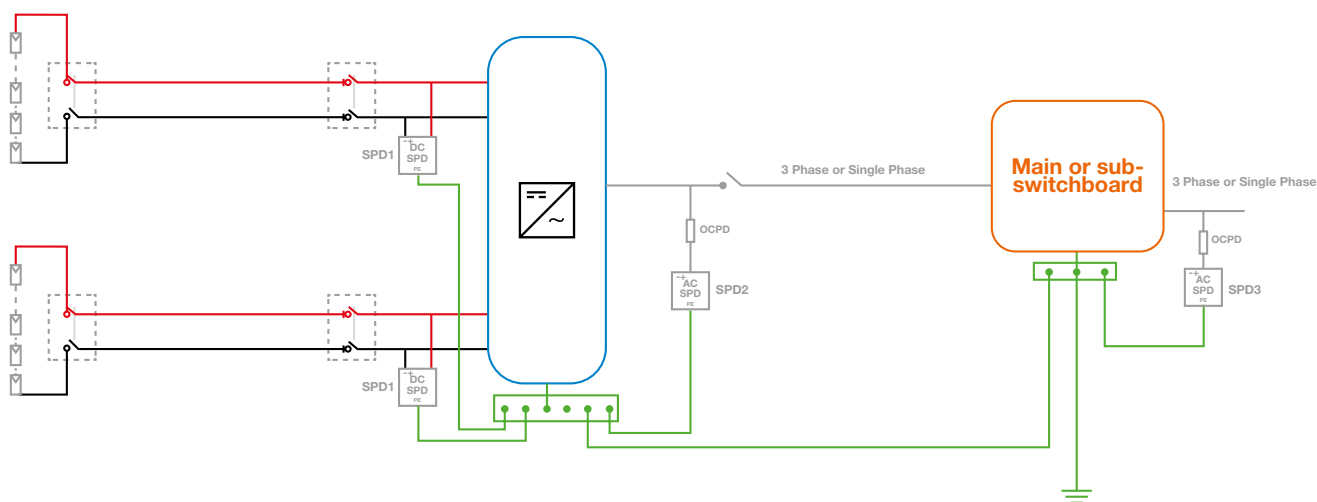

Figure 4. Electrical Schematic for Roof Mounted Panels with No Building LPS
Protection in this case is required only against indirect lightning. Figure 4 below represents this as an electrical schematic.
4. The protective earths of the SPDs and the frame earth of the inverter must be bonded together and in turn connected to the main earth bar as in figure 4. 4 or 6mm² cable is suitable.
The following tables list the Novaris products that are most suitable for the applications as referenced in Figure 4.